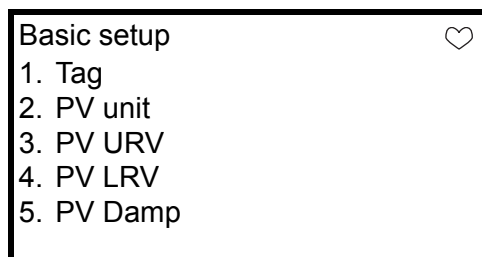

Figure 11 Transmitting the setting
5. After pressing F4 (ENTER) and returning to the basic menu, press F2 (SEND). The HART mark will appear in the upper right hand corner while HART is communicating with the device. (Figure 11)
4. After returning to the basic setup menu, press F2 (SEND). The HART[®] Communicator mark will appear on the upper right hand corner while HART is communicating with the device. (Figure 11) The mark will disappear once communication has properly completed.
4. After returning to the basic setup menu, press F2 (SEND). The HART[®] Communicator mark will appear in the upper right hand corner while HART is communicating with the device. (Figure 11) The mark will disappear once communication is properly completed.